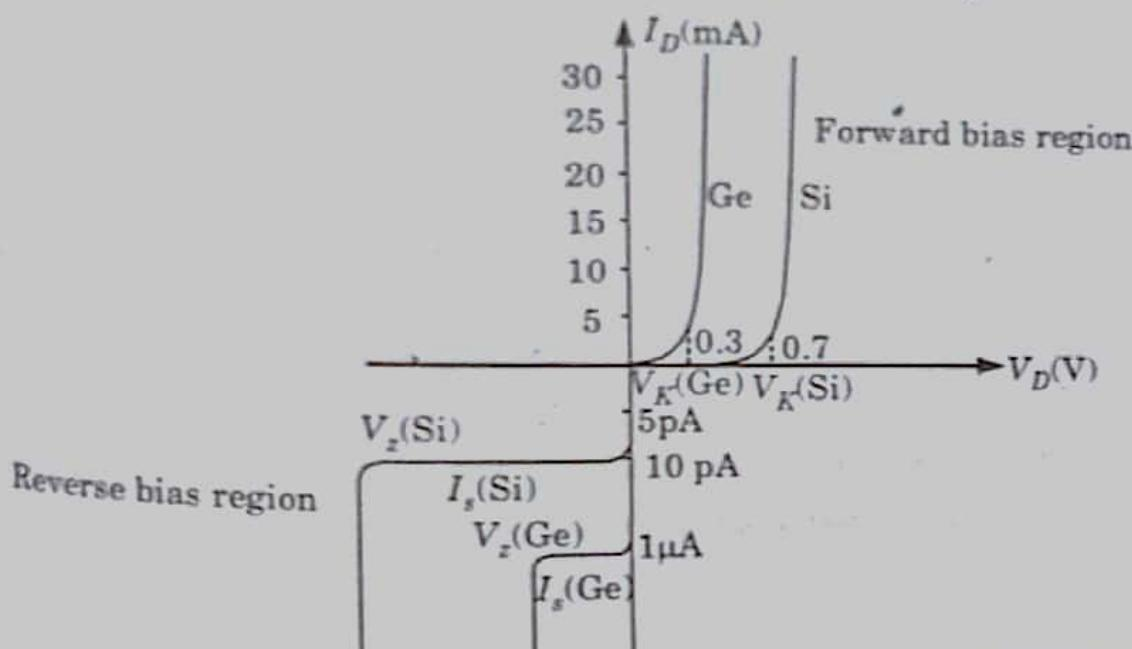

Fig. 3.17.1. Volt-ampere characteristics of *p-n* junction.
- 3 As the forward applied voltage increases beyond threshold voltage, the forward current rises exponentially as shown in Fig. 3.17.1.
3. In practical, a small current of the order of μA flows in the circuit due to minority carriers. This is known as reverse current. The reverse current is shown in Fig. 3.17.1.